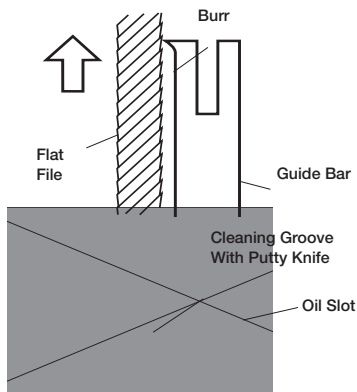

Figure 22 - Guide Bar Maintenance
2. Remove sawdust from guide bar groove periodically. Use putty knife or wire (see Figure 22).